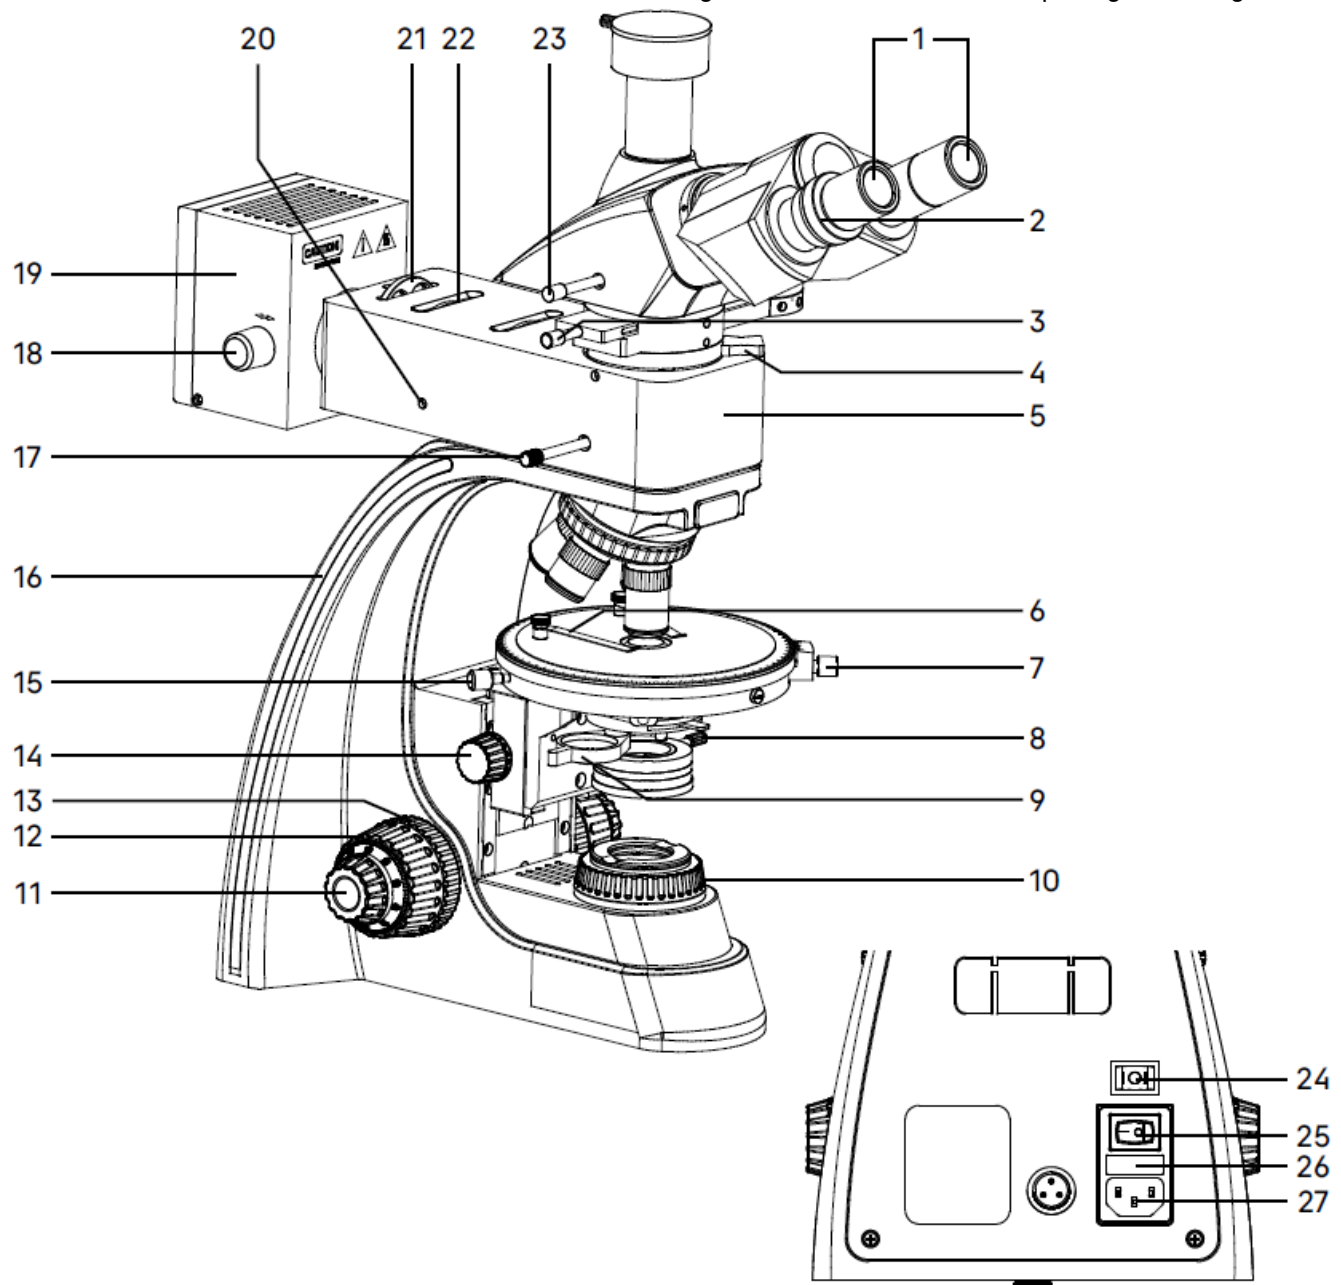
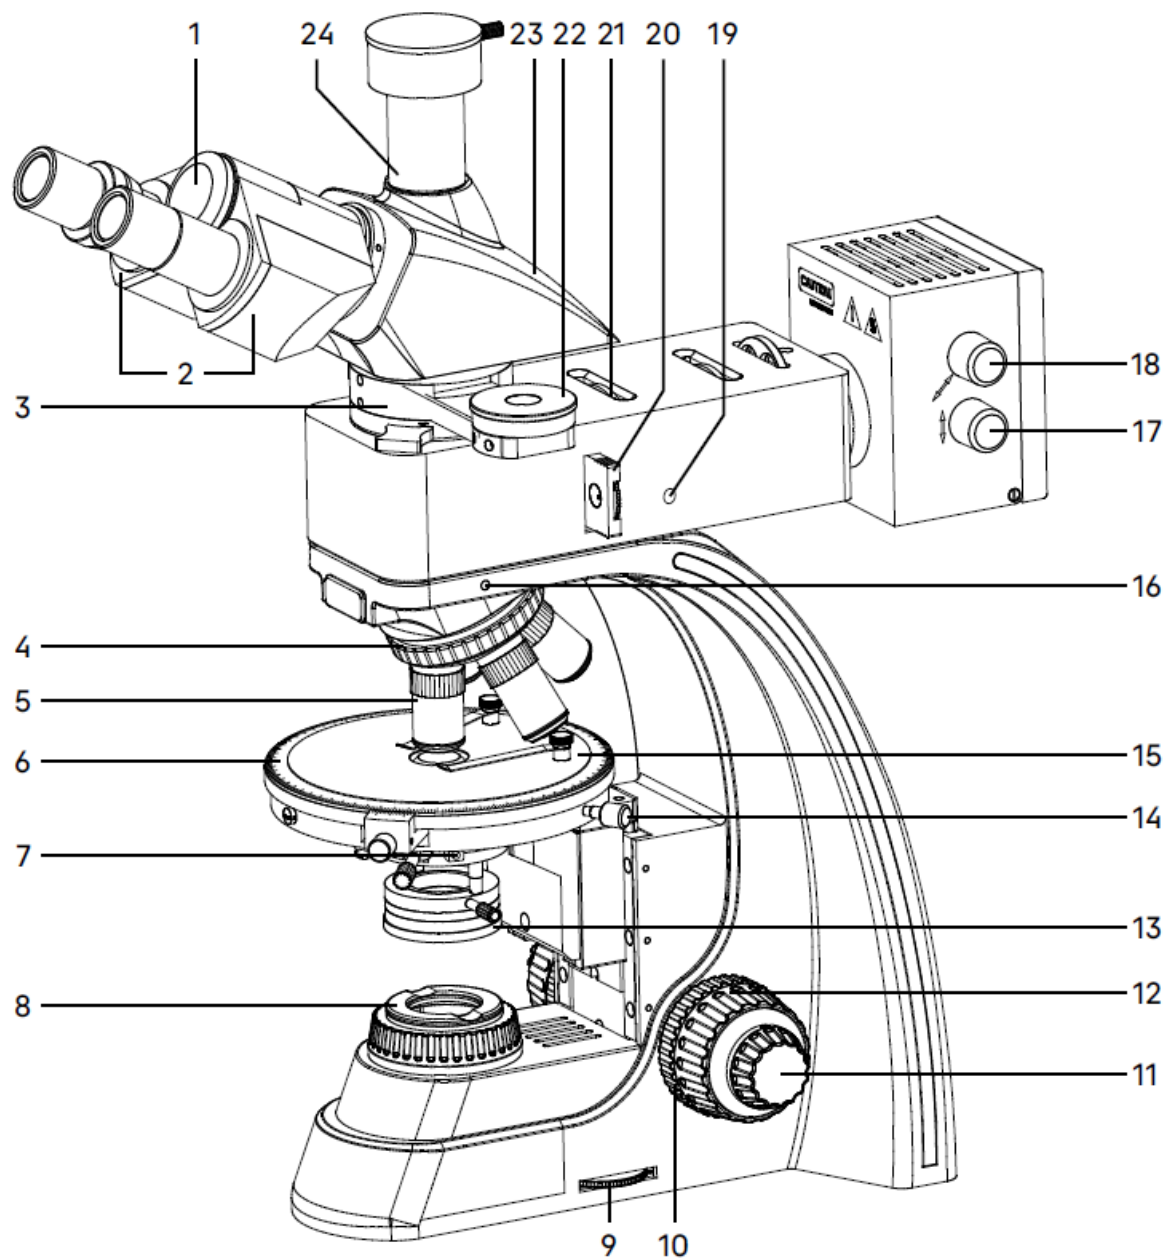

Fig. 1. MAGUS Pol 850 Microscope. View from the left
Fig. 2. MAGUS Pol 850 Microscope. View from the right
See Section 7 of the User Manual for full kit contents. The general view of the microscope is given in Fig. 1 and 2.
The stand 16 (Fig. 1) has a stable ergonomic design.
- revolving nosepiece 4 (Fig. 2) with objectives 5 (Fig. 2)
- stage 15 (Fig. 2)
- condenser mount (not shown in Fig. 1 and 2)
- collector 10 (Fig. 1).
Inside the stand is the focusing mechanism and the power supply of the transmitted and reflected light illuminator. The power supply converts AC voltage to the required voltage to power the halogen bulb. The back panel of the microscope stand contains an ON/OFF switch 25 (Fig. 1), transmitted/reflected light illuminator switch 24 (Fig. 1), fuse holder 26 (Fig. 1), and a connector for the AC power cord 27 (Fig. 1), which connects the microscope to an AC outlet.
There is a brightness adjustment ring 9 (Fig. 2) on the right of the stand.
The focusing mechanism is located inside the microscope stand. The mechanism has a coaxial design: Coarse and fine focusing knobs, coarse focusing tension adjusting knobs, and coarse focusing lock knobs are mounted on the same axis. Focusing on the specimen is achieved by adjusting the height of the stage. Coarse focusing is performed by rotating the coaxial knobs 12 (Fig. 1, 2) on both sides of the microscope stand. Fine focusing is performed by rotating the knobs 11 (Fig. 1, 2) on both sides of the microscope stand. Fine focusing allows for more precise focusing on the specimen and re-focusing the microscope to get an accurate image resolution when changing objectives and specimens. Fine focusing scale value: 2 μ m. The coarse focusing tension adjustment is performed by the ring 10 (Fig. 2) between the stand and the coarse focusing knob on the right side. The ring adjusts the coarse focusing tension so that the tension is comfortable for the user, but the revolving nosepiece with objectives does not lower spontaneously during operation. The coarse focusing lock knob 13 (Fig. 1) is located on the left side. Once the coarse focusing is completed, we recommend rotating the knob clockwise as far as it will go. This secures the coarse focusing position to allow for rapid re-focusing after the specimen is changed.
The trinocular head 23 (Fig. 2) provides the visual observation of the specimen image. The microscope head is installed in the slot of the intermediate attachment. The interpupillary distance is adjusted by rotating the eyepiece tubes in the range of 48–75mm. The distance between the eyepieces matching the observer's interpupillary distance is marked on the adjustment scale 1 on the microscope head (Fig. 2).
There is a diopter adjustment on one of the tubes to compensate for the observer's ametropia. An imaging system with a monitor is installed in the trinocular tube 24 (Fig. 2) using a C-mount adapter. You can switch the light path to the trinocular tube using lever 23 (Fig. 1). The lever has two positions: 100/0 and 0/100.
The microscope kit includes eyepiece 1 (Fig. 1) and an eyepiece with crosshairs. The eyepieces have long eye relief and are designed to work with or without glasses.
The revolving nosepiece 4 (Fig. 2) allows for the installation of five objectives. The free slot is used to adjust the bulb position in the reflected light illuminator and install an additional objective. Objectives are changed by rotating the knurled ring of the revolving nosepiece until the objective fits into place.
The aperture and field diaphragms should not be considered as a tool to adjust the image brightness. The brightness should be adjusted by changing the light intensity using the knob 9 (Fig. 2) for adjusting the halogen bulb brightness.